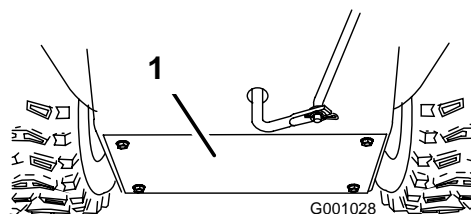

Figure 52
3. Remove the back cover (Figure 52).